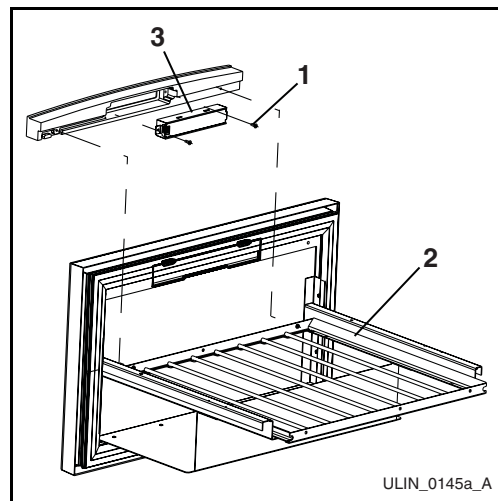

Figure 28
4. Remove the two screws (**Figure 28, 1**) securing trim to wine rack assembly (**Figure 28, 2**).
NOTE: Your model will contain an electronic display panel (Figure 28, 3) in the wine rack attached to the bottom drawer. After removing the trim screws, and gently lifting the trim from its location, a wiring harness connector will become visible. Unplug the connector. DO NOT remove drawer from unit.